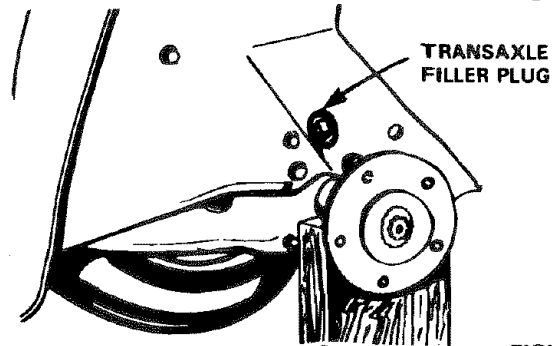

FIGURE 39
- Block up rear axle (Fig. 39) securely or use a tractor jack.
- Remove filler plug (Fig. 39) from transaxle. Oil level must be even with plug threads. See your Sears Service Center if additional oil is required. Replace filler plug.